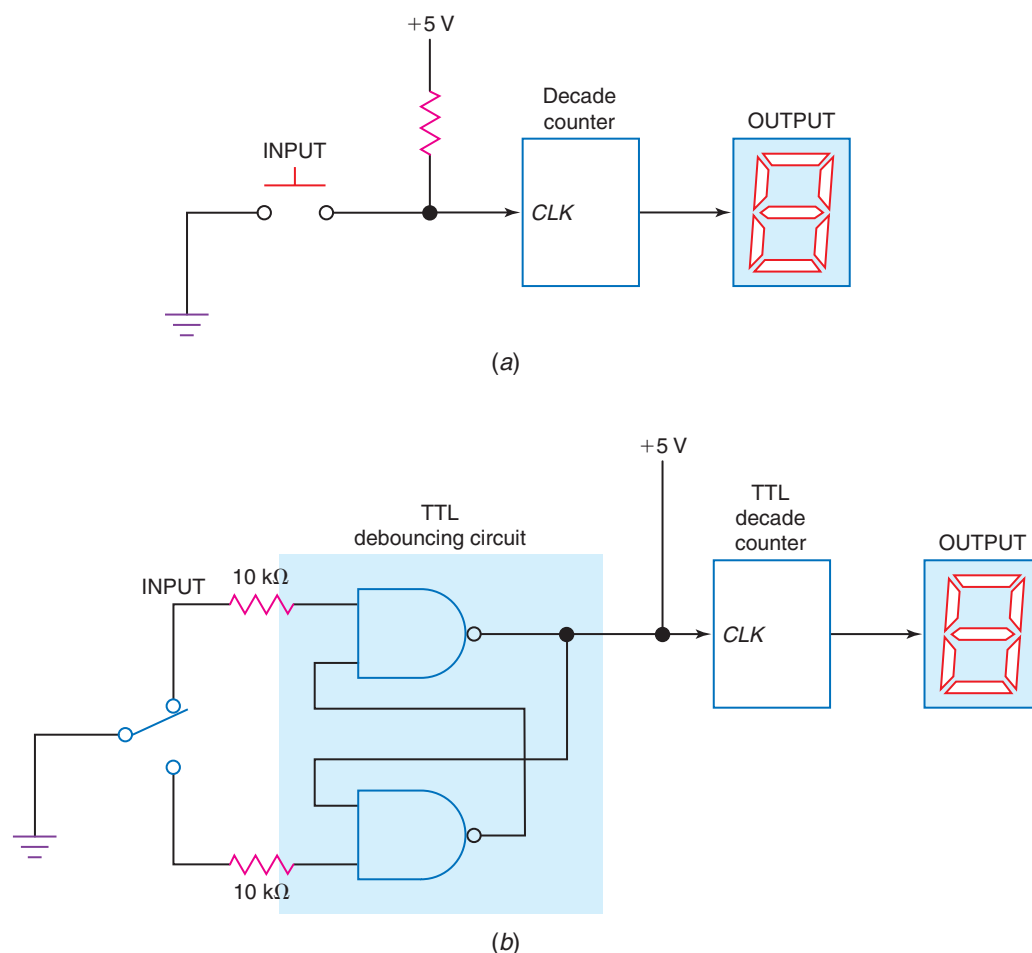

Fig. 5-12 (a) Block diagram of switch interfaced to a decimal counter system. (b) Adding a debouncing circuit to make the decimal counter work properly.
The switch interface circuits in Figs. 5-10 and 5-11 work well for some applications. However, none of the switches in Figs. 5-10 and 5-11 were *debounced*. The lack of a debouncing circuit can be demonstrated by operating the counter shown in Fig. 5-12(a). Each press of the input switch should cause the decade (0–9)
A *switch debouncing circuit* has been added to the counting circuit in Fig. 5-12(b). The decade counter will now count each HIGH–LOW cycle of the input switch. The cross-coupled NAND gates in the debouncing circuit are sometimes called an *RS flip-flop or latch*. Flip-flops will be studied later in greater detail.
26. Refer to Fig. 5-12(b). The cross-coupled NAND gates that function as a debouncing circuit are sometimes called a(n) _____ or latch.
29. Refer to Fig. 5-12(a). This decade counter circuit lacks what circuit?